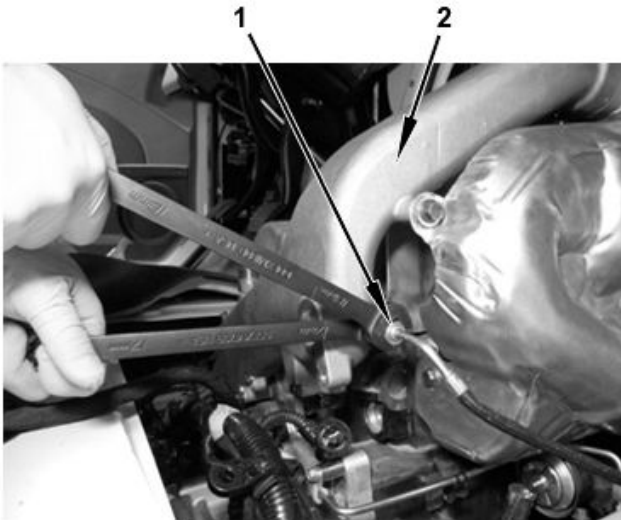

Figure 8. Coolant Manifold.
10. Remove hydrocarbon injector (HCI) coolant supply tube nut (Figure 8, Item 1) from coolant manifold (Figure 8, Item 2).